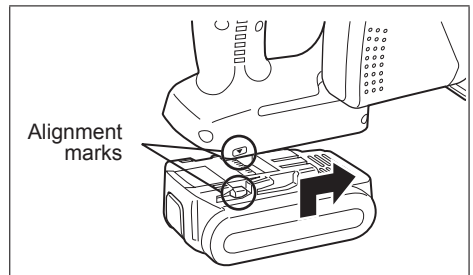

Fig. 2
- 1. To connect the battery pack (See Fig. 2)